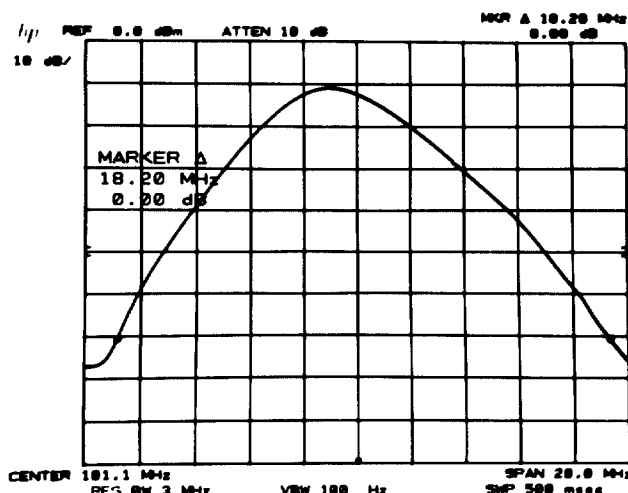

FIGURE 6. 60 dB BANDWIDTH MEASUREMENT
4. Press **MARKER** **NORMAL** and position marker at peak of signal trace. Press **MARKER** **Δ** and position movable marker 60 dB down from the stationary marker on the positive-going edge of the signal trace (the **MARKER Δ** amplitude readout should be $-60.00 \text{ dB} \pm 1.00 \text{ dB}$). It may be necessary to press **SWEEP** **CONT** and adjust **CENTER FREQUENCY** so that both 60 dB points are displayed (see Figure 6).
6. Read the 60 dB bandwidth for the 3 MHz resolution bandwidth setting from the MARKER Δ frequency readout (see Figure 6) and record the value in Table 6.